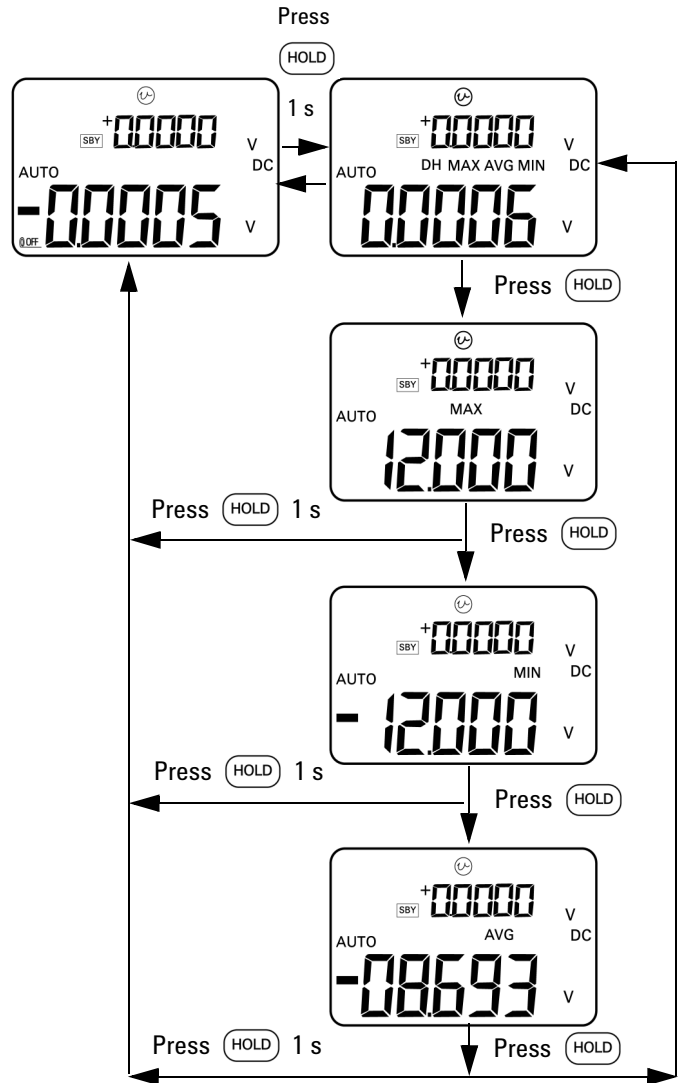

Figure 3-7 Dynamic recording mode
- 2** Press **MAX • MIN** to cycle through the maximum, minimum, average and present readings. The **MAX**, **MIN**, **AVG**, or **MAX AVG MIN** annunciator will appear to indicate which value is being displayed. See Figure 3-7 on page 59.